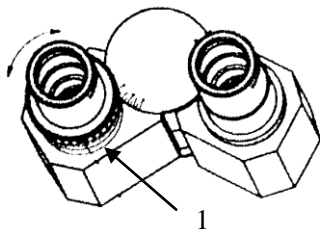

Fig. 4
4. Adjust the interpupillary distance by rotating the prism covers to obtain a single view through the eyepieces.(Fig. 4)
5. Adjust the position of the condenser light control (22) and the aperture diaphragm swivel (14) to obtain satisfactory illumination.
6. Adjust the coarse (9) and fine (10) focus to obtain a sharp image from the specimen.
Note: If one eye is not in focus, then focus using the right eye for a sharp image and then adjust the diopter ring (Fig. 4 #1) to obtain sharpness in left eye.